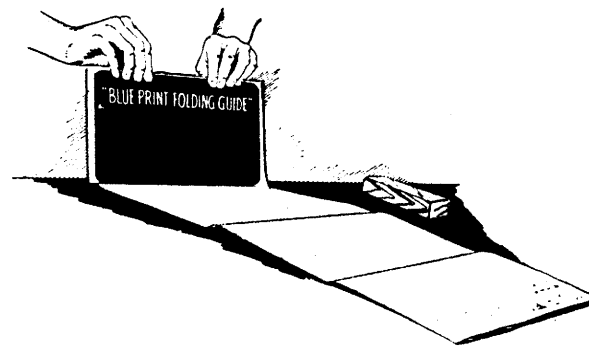

Figure 16-7.—Making first crosswise fold in a large print.
3. Place the lengthwise-folded drawing so that the side on which the drawing number appears is down. Begin at the end that contains the drawing number, and make the first 8 1/2-in. crosswise accordion-pleat fold, using the folding guide, as shown in figure 16-7.